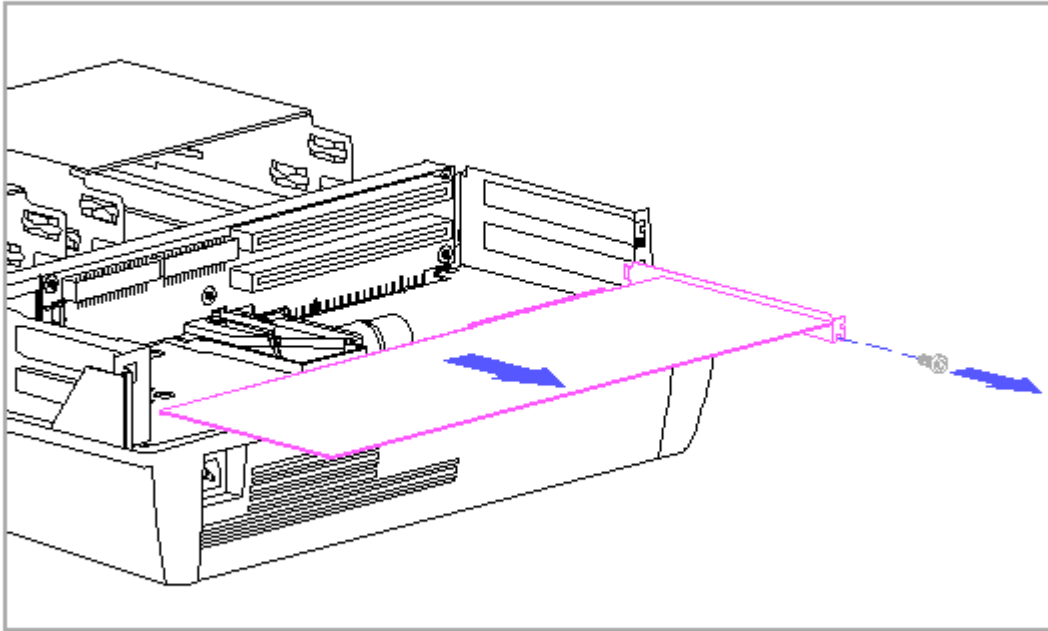

Figure 9-8. Removing the Expansion Board
2. Remove the expansion board screw (Figure 9-8).
3. Slide out the expansion board (Figure 9-8).